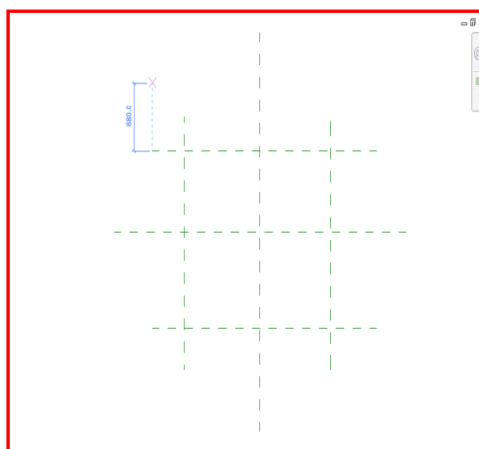

Figure 2.18
7. In the view window, on either side of the vertical centerline, draw reference plane as shown. The exact location is not critical as shown in Figure 2.18.